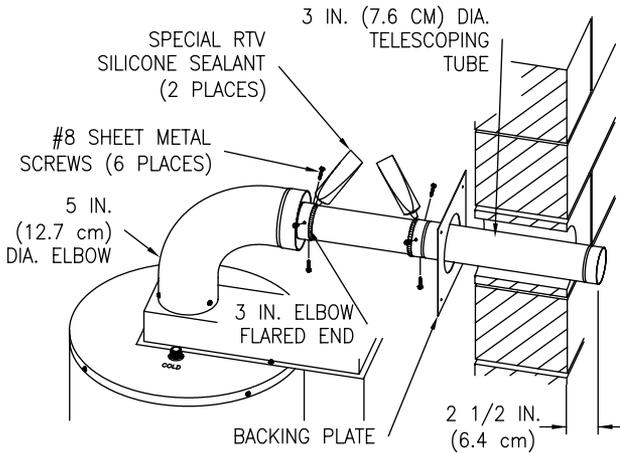

Figure 7
8. Extend the three (3) inch (7.6 cm) diameter telescopic tube to its maximum length and slide the backing plate over it. Place the large end of the three (3) inch (7.6 cm) diameter telescopic tube through the hole in the outside wall. Insert the smaller end of the three (3) inch diameter (7.6 cm) telescopic tube into the flared end of the three (3) inch (7.6 cm) diameter elbow, one (1) inch (2.5 cm) (or until seated). Drill three (3) 1/8 inch diameter holes, 120° apart, through the three (3) inch (7.6 cm) diameter elbow into the three (3) inch (7.6 cm) diameter telescopic tube. Fasten with three (3) #8 sheet metal screws (supplied). Adjust the overall length of the three (3) inch (7.6 cm) diameter telescopic tube so that 2-1/2 inches (6.4 cm) extends beyond the outside wall. Drill three (3) 1/8 inch (3.0 mm) diameter holes, 120° apart, through the three (3) inch (7.6 cm) diameter telescopic tubes where the small and large sections overlap. Fasten with three (3) #8 sheet metal screws (supplied). Using the supplied special RTV silicone sealant, apply a sufficient amount to seal the joints (See Figure 7).